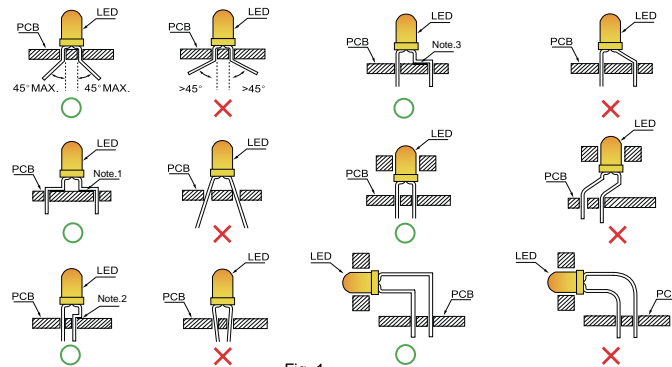

Fig. 1
1. The lead pitch of the LED must match the pitch of the mounting holes on the PCB during component placement. Lead-forming may be required to insure the lead pitch matches the hole pitch. Refer to (Fig. 1) for proper lead forming procedures.